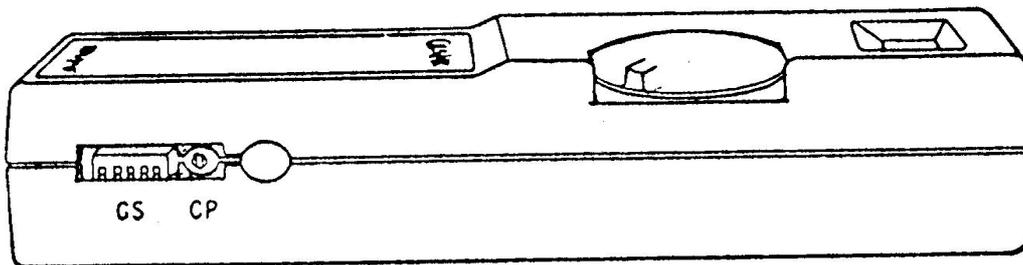
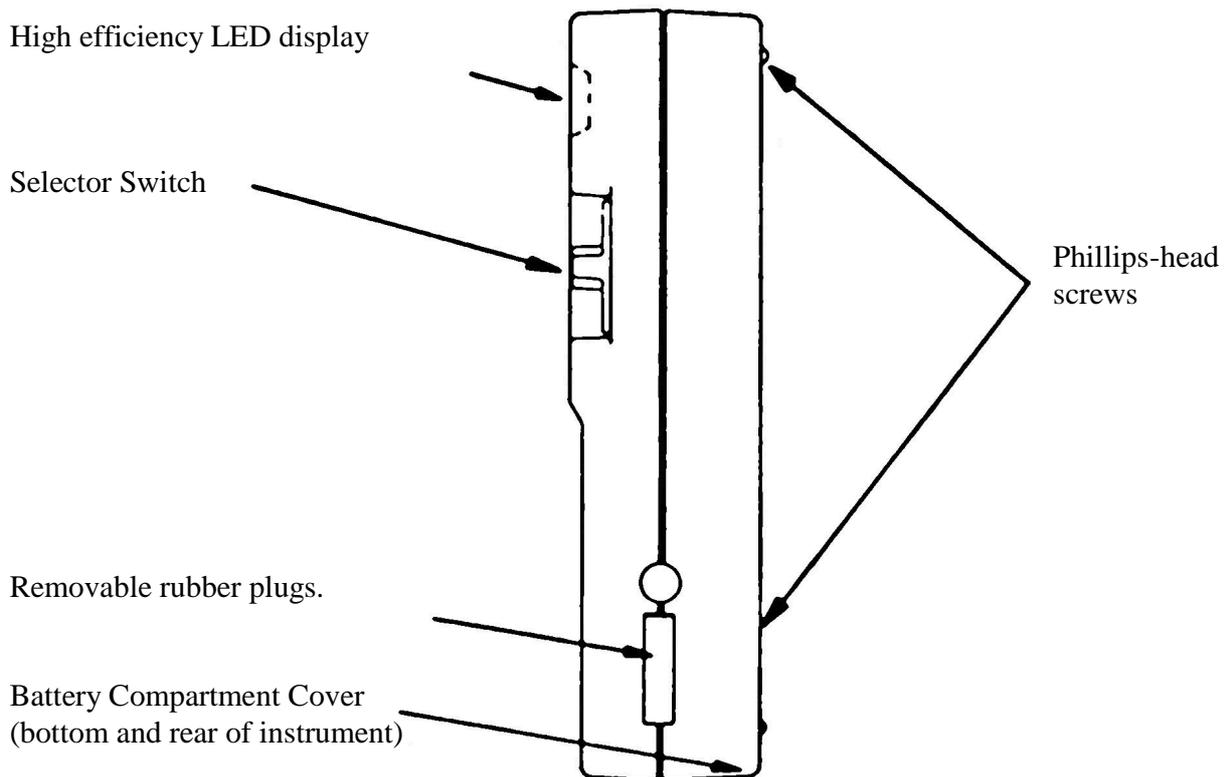

Fig. 5. Calibration Switch (CS) and Calibration Potentiometer (CP).
Fig. 6. Side View of Instrument.
CAUTION: At the end of the procedure described in Table 1, make certain the calibration switch (CS in Figure 5) has been returned to its standard configuration. If it is not, the instrument will become inoperative as soon as the front panel selector switch is moved from its current position (see Section 4, "Troubleshooting During Calibration or Alarm Selection").
1. Remove rubber plug (Fig. 6) to access the calibration switch and potentiometer (Fig. 5). The standard configuration (*) of the calibration switch is shown at right.
1. Remove rubber plug (Fig. 6) to access the calibration switch and potentiometer (Fig. 5). The standard configuration of the calibration switch is shown at right.
1. Remove rubber plug (Fig. 6) to access the calibration switch and potentiometer (Fig. 5). The standard configuration of the calibration switch is
1. Place the selector switch to OFF and remove the battery compartment cover, the four AA batteries, the two rubber plugs on the side of the case, and the two Phillips-head screws from the back of the case (see Fig. 6).
1. Make sure the selector switch is in the OFF position, then remove the battery compartment cover and the four AA batteries. Remove also the two rubber plugs on the side of the case (see Fig. 6). Remove the two screws from the back of the case and lift the top cover exposing the main circuit board. Unscrew the plastic cable clamp near the 6-pin connector and leave it on the cable.
1. Make sure the selector switch is in the OFF position, then remove the battery compartment cover and the four AA batteries. Remove the two rubber plugs on the side of the case (see Fig. 6). Remove the two Phillips screws from the back of the case and lift the top cover exposing the main circuit board. Unscrew the plastic cable clamp near the 6-pin connector and leave it on the cable.